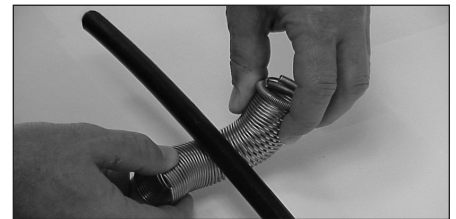

FIGURE 4: Twist the Corona Ring one full coil against the helix direction.
4. Twist the Corona Ring at least one full coil against the direction of the helix to open up the coils. (**Figure 4**).